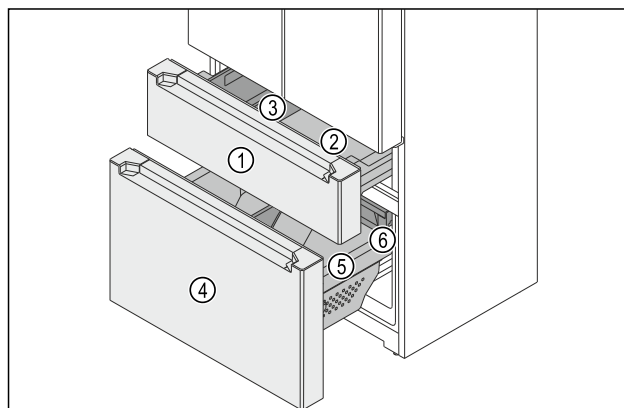

Fig. 150 Freezer section pull-out carts
- (1) Top pull-out cart
- (2) Container
- (3) FlexBox
- (4) Bottom pull-out cart
- (5) Container
- (6) Drawer
The freezer section consists of two pull-out carts. The top pull-out cart Fig. 150 (1) has one container Fig. 150 (2) and one FlexBox Fig. 150 (3). The bottom pull-out cart Fig. 150 (4) has a larger container Fig. 150 (5) and a drawer Fig. 150 (6). You can remove the FlexBox and the container in the top pull-out cart for cleaning.